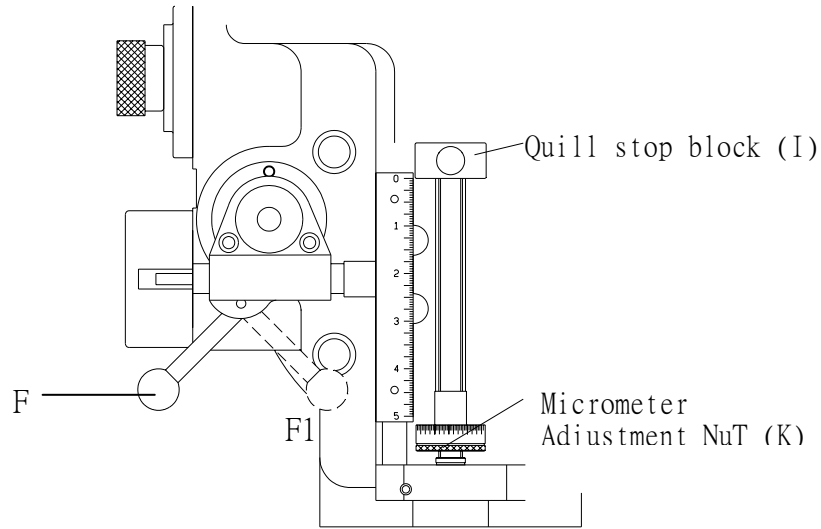

Fig.6-2
- (4) Pull the feed control lever (F) from (F1) to (F2) position (Fig.6-2) to engage the overload clutch for automatic feed mechanism.
- (6) As shown in (Fig.6-2), the working depth may be set by micrometer adjustments nuts (K) (each graduation is 0.001" or 0.02mm) when the quill stop block (I) contacts the micrometer nut (K), the feed control lever (F) may simply jump from (F2) back to (F1) position owing to the connecting motion between the feed trip lever and feed trip plunger. This will disengage the overload clutch and stop the spindle feed.